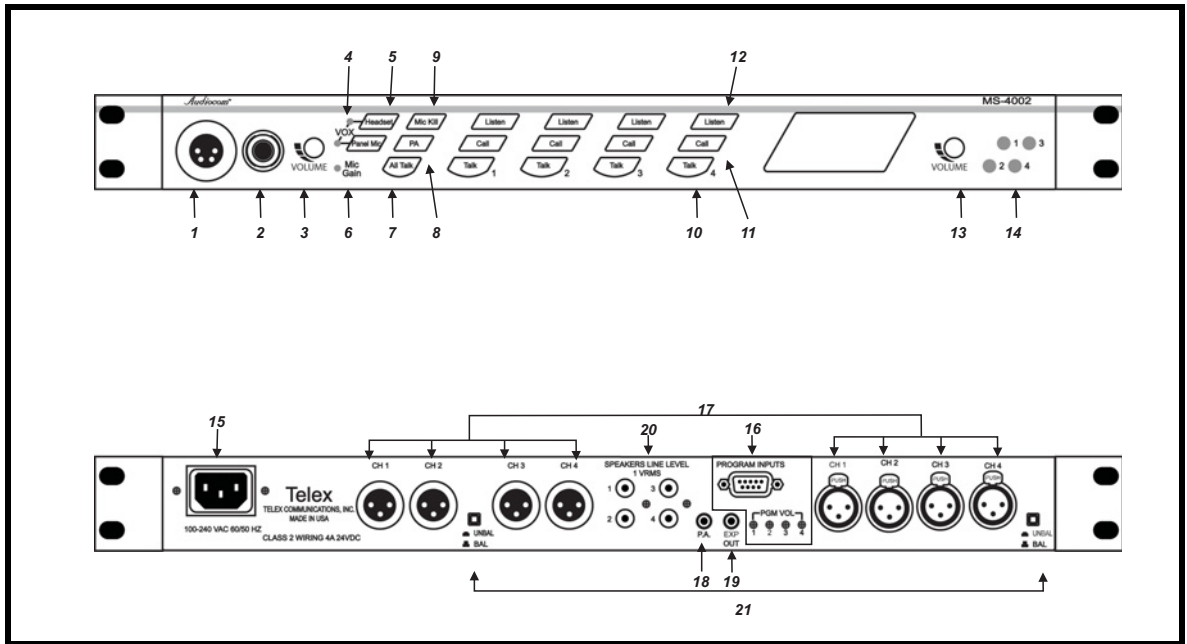

Figure 1. MS-4002 Reference View
The MS-4002 mounts in a standard 19-inch equipment rack and is 1 rack unit (RU) high. When mounting the MS-4002, install the supplied black face plates on the appropriate sides. The face plates should be mounted with the grooves on the top, see Figure 1, “MS-4002 Reference View,” on page 3.